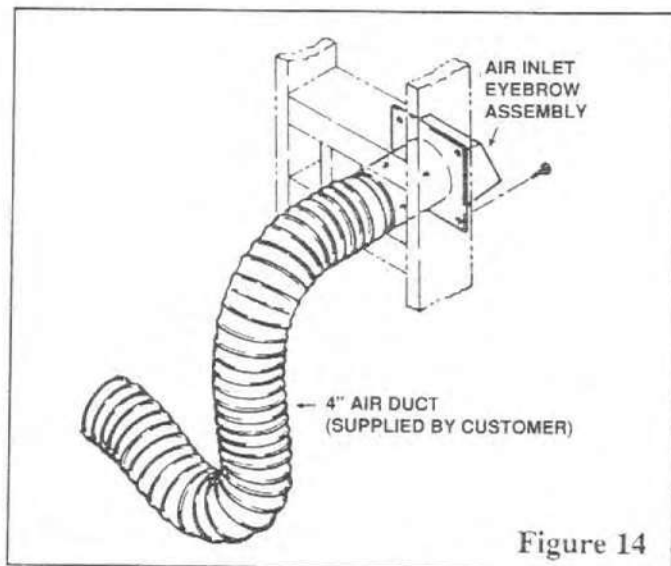

Figure 14
**STEP 7:** Install the air inlet eyebrow through the wall opening (Figure 14). Push a 4" diameter NON-COMBUSTIBLE Class 0 or Class 1 flexible duct onto the eyebrow.